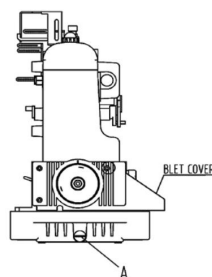
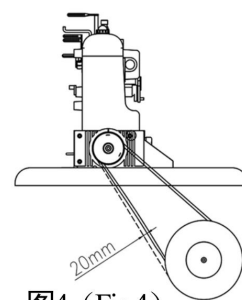

图3 (Fig.3)
图4 (Fig.4)
2、马达转向为顺时针方向，皮带的松紧度已手指向内压下 20mm 为宜，同时为安全起见，把皮带轮盖必须锁上（图 3&4）
Connect the machine hand wheel to the clutch motor with the V-belt.Adjust the tension of the V-belt so that it can be about 20 mm bent inward when you press the center of V-belt and make sure the clutch motor turning direction is clockwise as shown Figure 3.Install the belt cover according to Figure 4.
(2) 润滑油的更换(图 3)
2. Lubricant oil change :(Fig.3)